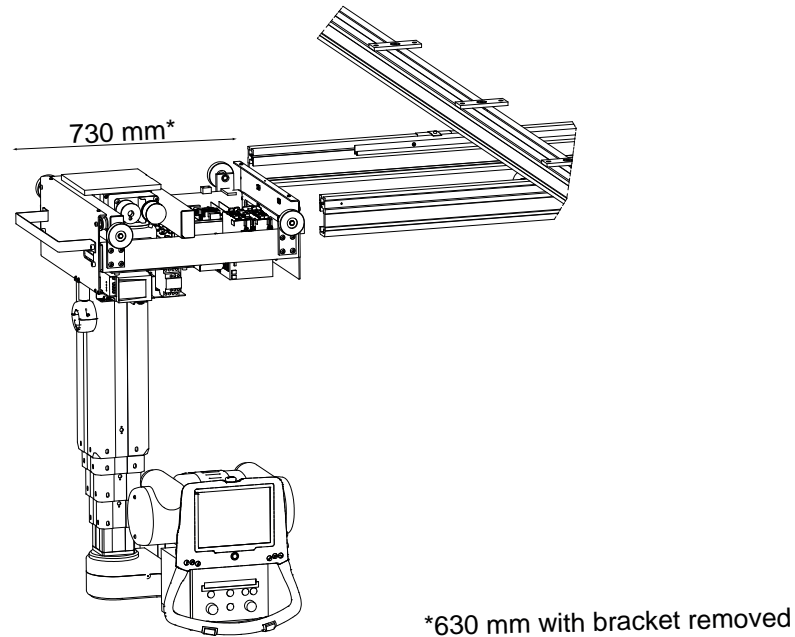

Fig. 5-22
- Lift up the ceiling wagon and roll it into the traverse rails X, see Fig. 5-22